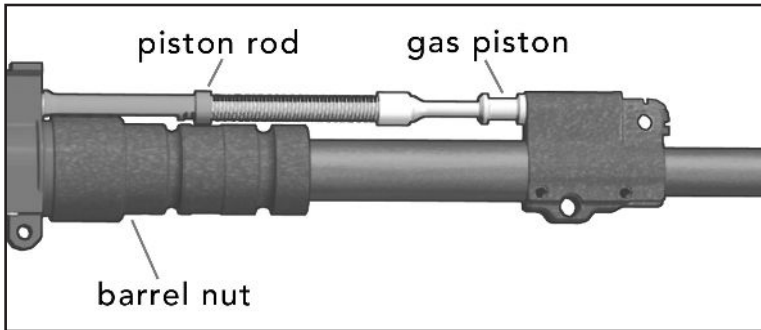

Fig. 83 – Lubrication of the MR762A1 Bolt Carrier Assembly
1. Apply a medium coat of lubricant on the gas piston and operating rod (Fig. 83)